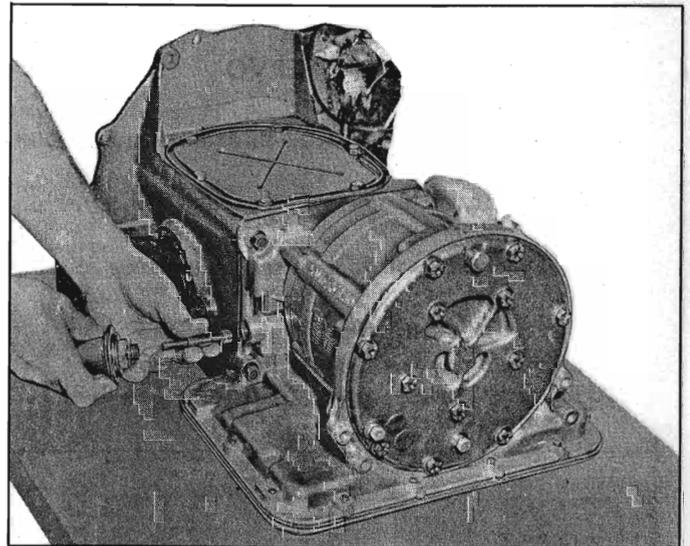

Fig. 6E-8—Removing Vacuum Modulator and Valve
3. Remove the vacuum modulator valve (fig. 6E-8) from the transmission case.